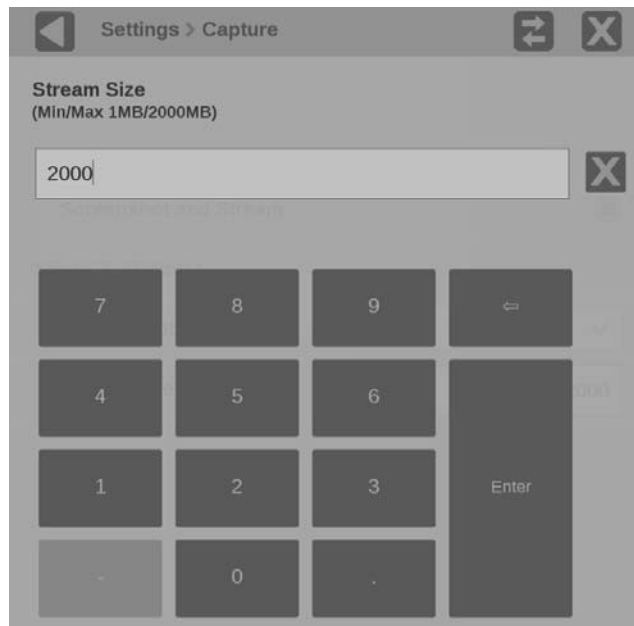

Figure 82: Stream Size settings
6. Select **Stream Size (MB)** to set the size of the capture. (See Figure 82.)